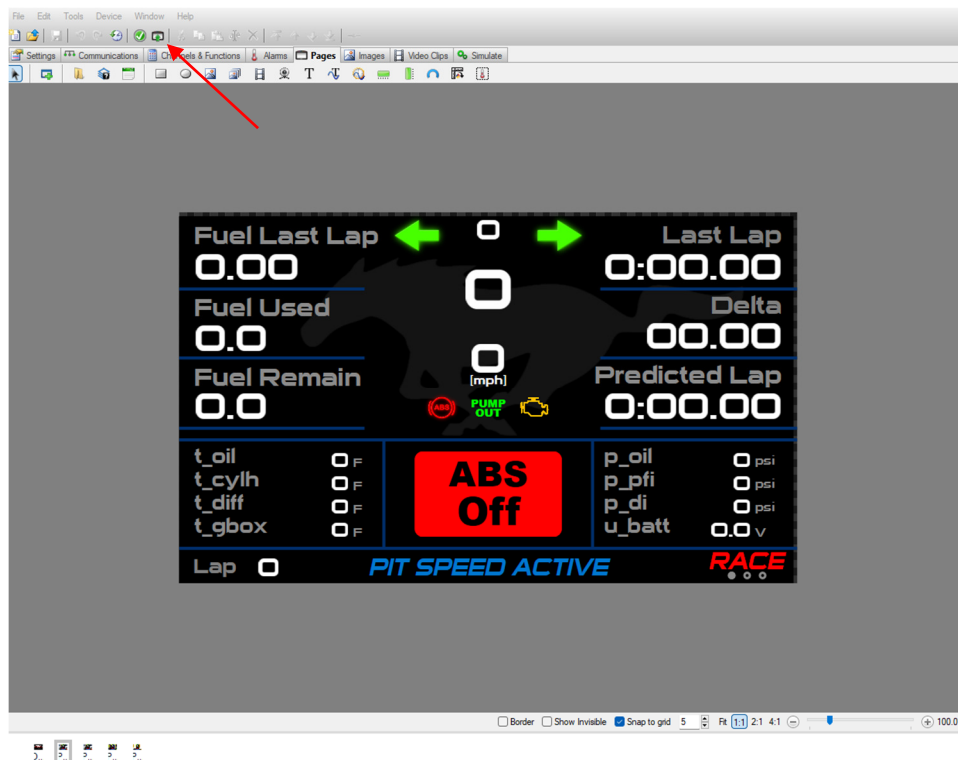

Figure 4.45: Display Creator – configure device.
7. From the main window, select the “configure device” icon shown in Figure 4.45.